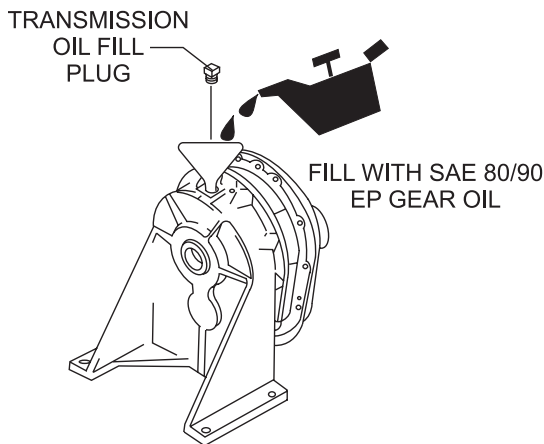

Figure 6. Transmission Oil Level
1. Remove the **transmission oil level plug** (Figure 6). If oil begins to seep out as the plug is being removed, then it can be assumed that the transmission oil is at the proper operating level.